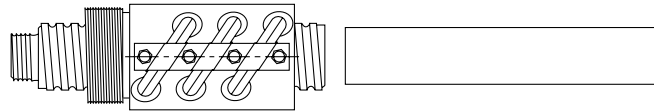

Figure 9
3. Remove the arbor. (Figure 9.)